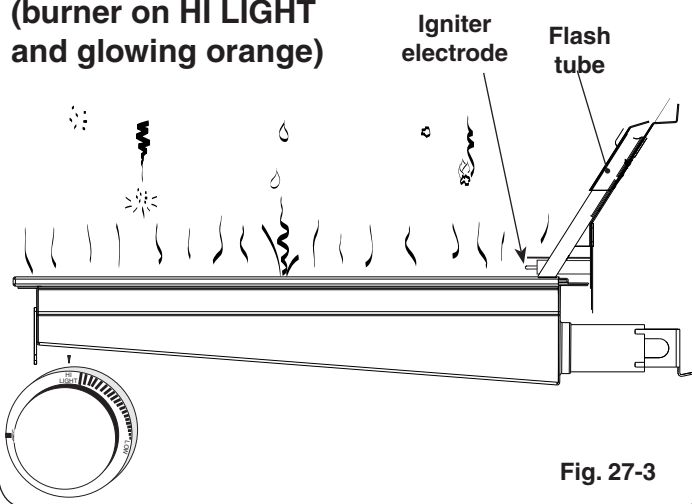

Fig. 27-3
- **DO NOT** place food on the cooking grid until the IR burner glows orange (Fig. 27-3). Drippings are heated and evaporate instead of sticking to and impairing burner function.